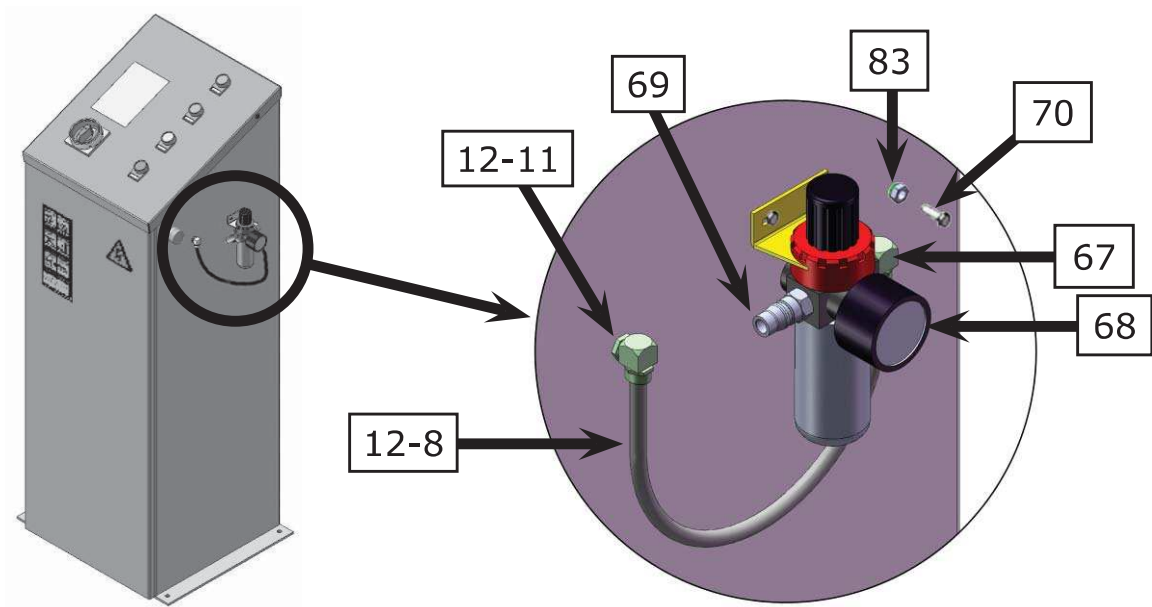

Fig. 16
3. Install the oil-water separator (See Fig. 16).